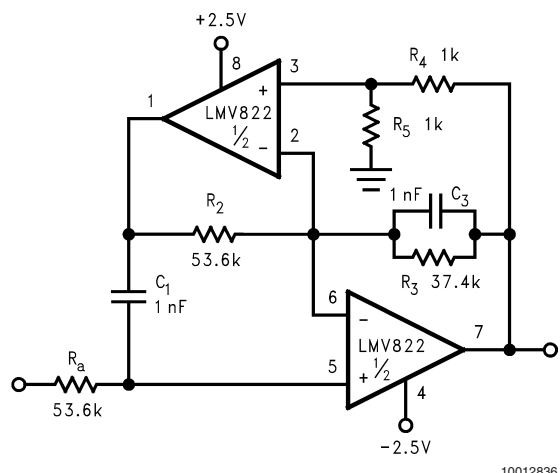
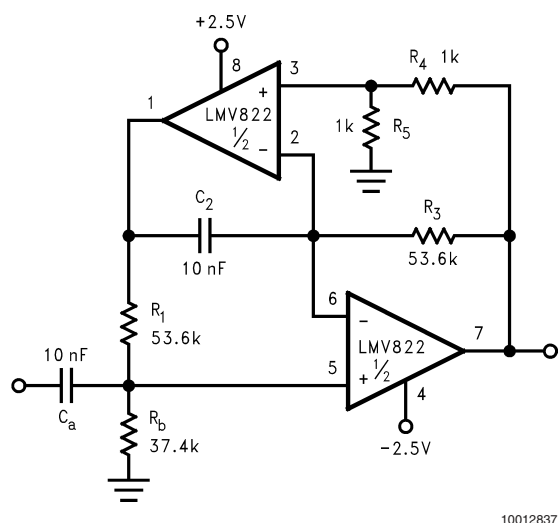
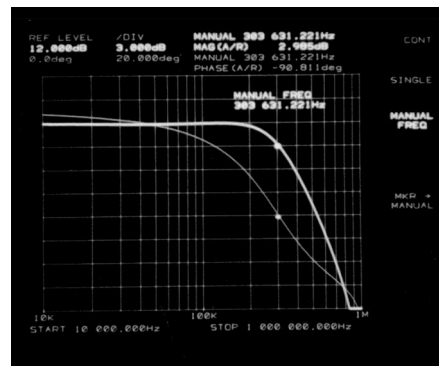

FIGURE 10. Dual Amplifier, 3 kHz Low-Pass Active Filter with a Butterworth Response and a Pass Band Gain of Times Two
FIGURE 11. Dual Amplifier, 300 Hz High-Pass Active Filter with a Butterworth Response and a Pass Band Gain of Times Two
FIGURE 12. 300 kHz, Low-Pass Filter, Butterworth Response as Measured by the HP3577A Network Analyzer
The LMV822/24 bring economy and performance to DAAFs. The low-pass and the high-pass filters of *Figure 10* and *Figure 11* (respectively), offer one key feature: excellent sensitivity performance. Good sensitivity is when deviations in component values cause relatively small deviations in a filter's parameter such as cutoff frequency (F_c). Single amplifier active filters like the Sallen-Key provide relatively poor sensitivity performance that sometimes cause problems for high production runs; their parameters are much more likely to deviate out of specification than a DAAF would. The DAAFs of *Figure 10* and *Figure 11* are well suited for high volume production.
Single Amplifier versions require a large open-loop to closed-loop gain ratio - approximately 50 to 1, at the Fc of the filter response. Figure 12 shows an impressive photograph of a network analyzer measurement (hp3577A). The measurement was taken from a 300 kHz version of Figure 10. At 300 kHz, the open-loop to closed-loop gain ratio @ Fc is about 5 to 1. This is 10 times lower than the 50 to 1 "rule of thumb" for Single Amplifier Active Filters.
In addition to performance, DAAFs are relatively easy to design and implement. The design equations for the low-pass and high-pass DAAFs are shown below. The first two equations calculate the Fc and the circuit Quality Factor (Q) for the LPF (Figure 10). The second two equations calculate the Fc and Q for the HPF (Figure 11).
To simplify the design process, certain components are set equal to each other. Refer to *Figure 10* and *Figure 11*. These equal component values help to simplify the design equations as follows:
To illustrate the design process/implementation, a 3 kHz, Butterworth response, low-pass filter DAAF (*Figure 10*) is designed as follows: